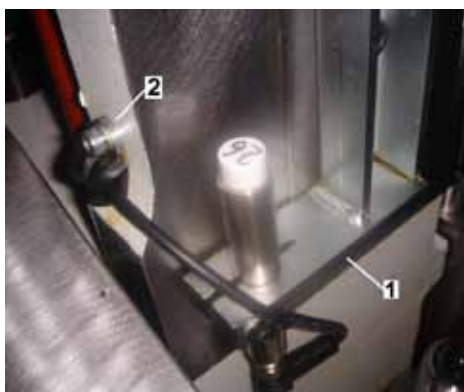

Fig. 52: Cables through fastening clamp
1. Lead the cables from the sensor bracket (Fig. 52/1) through the fastening clamp (Fig. 52/2) on the bed plate (if necessary).